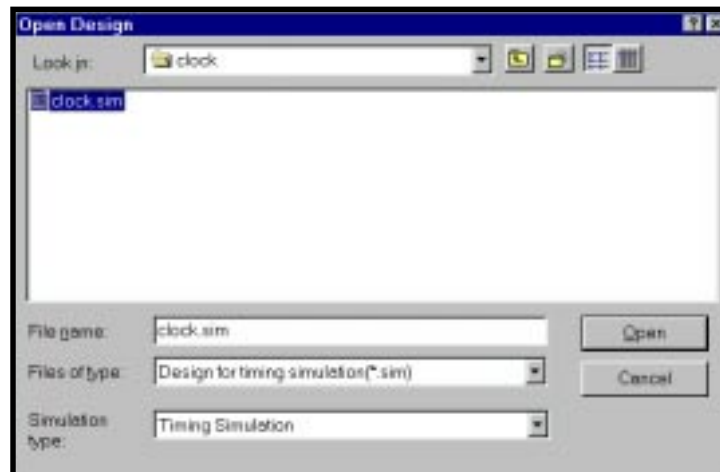

Figure 5-5. Open Design Dialog Box
2. Select **File** ⇒ **Open Design** from the Simulator Control Panel window. The Open Design dialog box displays (Figure 5-5).